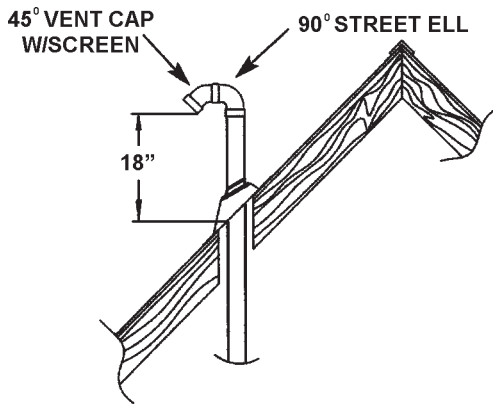

FIGURE 16.
- The Power Vent outlet terminal shall terminate at least 18" above the roof surface, see Figure 16.